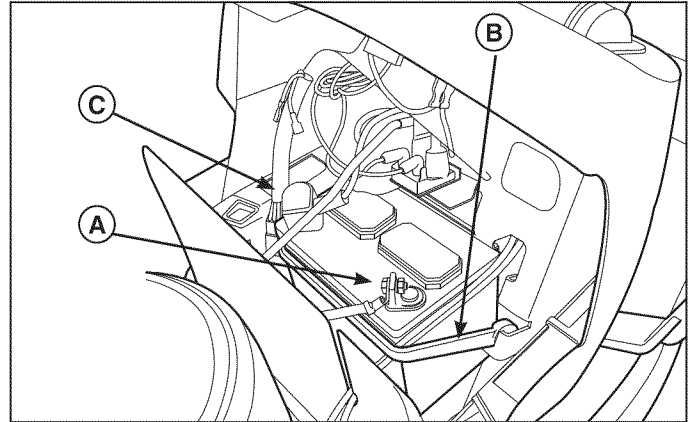

Figure 12
1. Disconnect the cables from the battery, negative cable first (A, Figure 12).
2. Remove the battery hold-down strap (B) and battery.
6. Reattach the battery cables, positive cable first (C).